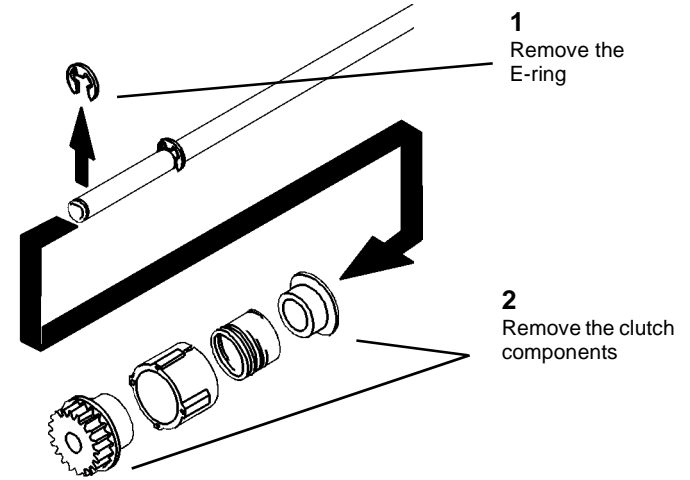

Figure 5 Removing the Clutch
5. (Figure 5): Remove the clutch.